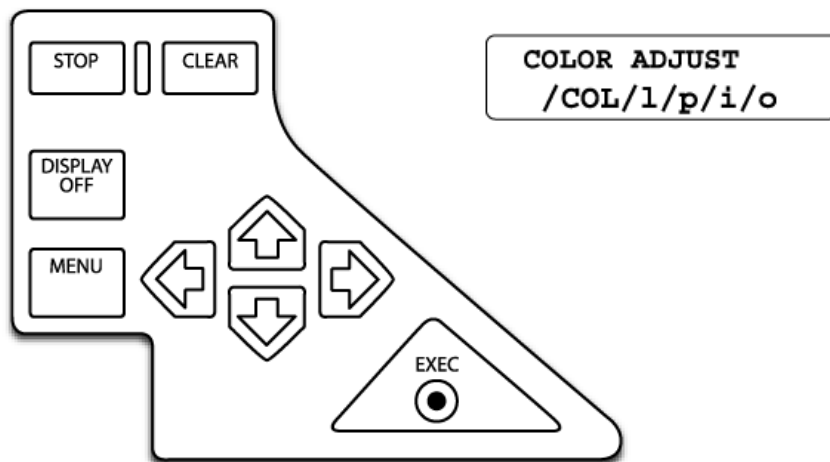
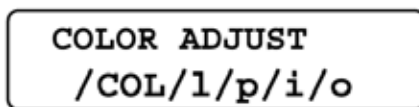

Figure 8-160 Color Video Printer Control Panel and Printer Window Display
Figure 8-161 Color Video Printer Window Display (COLOR ADJUST top menu displayed)
The Preset menu is displayed (see Figure 8-160 below).
- 1.) Select COL using the  or  button (see Figure 8-160, above). The COLOR ADJUST top menu is displayed on the Printer Window display (Figure 8-161 below).
- 1.) Return to the COLOR ADJUST top menu (Figure 8-161 on page 8-163)), using the  button.